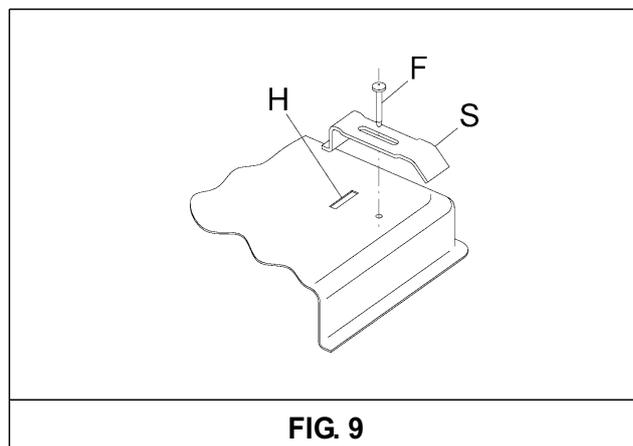

FIG. 9
- Fix the hob with the proper brackets "S" and fit the prominent part into the porthole "H" on the bottom; turn the screw "F" until the bracket "S" sticks on the top (fig. 9).